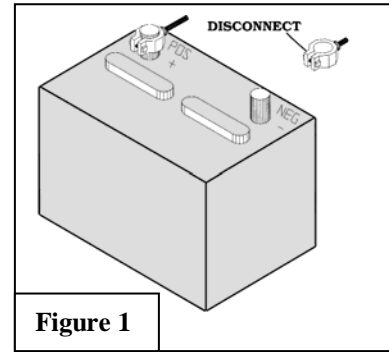

Figure 1
- 1.  It is advisable to disconnect the negative battery cable for 3 minutes before beginning installation, to avoid unintended air bag deployment. Note and record any anti-theft radio codes prior to disconnecting. **Figure 1**